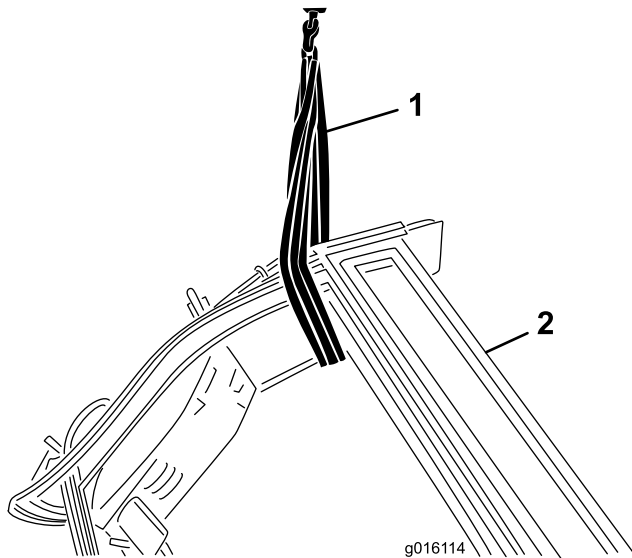

Figure 1
3. To raise platform, if fitted with cab, remove doors. Remove rear retaining pins from the L.H. and R.H. cab support bracket. Loop a suitable lifting strap through sides of cab and over roof. Secure with a hoist with a minimum lifting capacity of 350 kg (772 lb) (Figure 1).